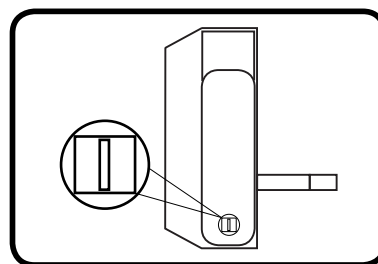

Fig.3
3. Re-fit the keypad and inside handle so they are now on opposite sides, ensuring that the flat part of the spindle is facing up and down or at the 12 and 6 o'clock position as per **fig.3** below. Please note the BL3400 KO/DKO model comes with a split spindle arrangement and both spindles are to be positioned the same.